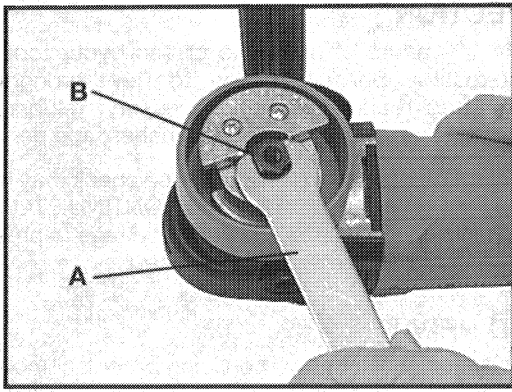

Fig. 6
2. Position spindle wrench (A), Fig. 6, (furnished with tool) to engage the flats on the spindle (B), Fig. 6.
- B. Fig. 6 shows tool with pad removed for clarity.